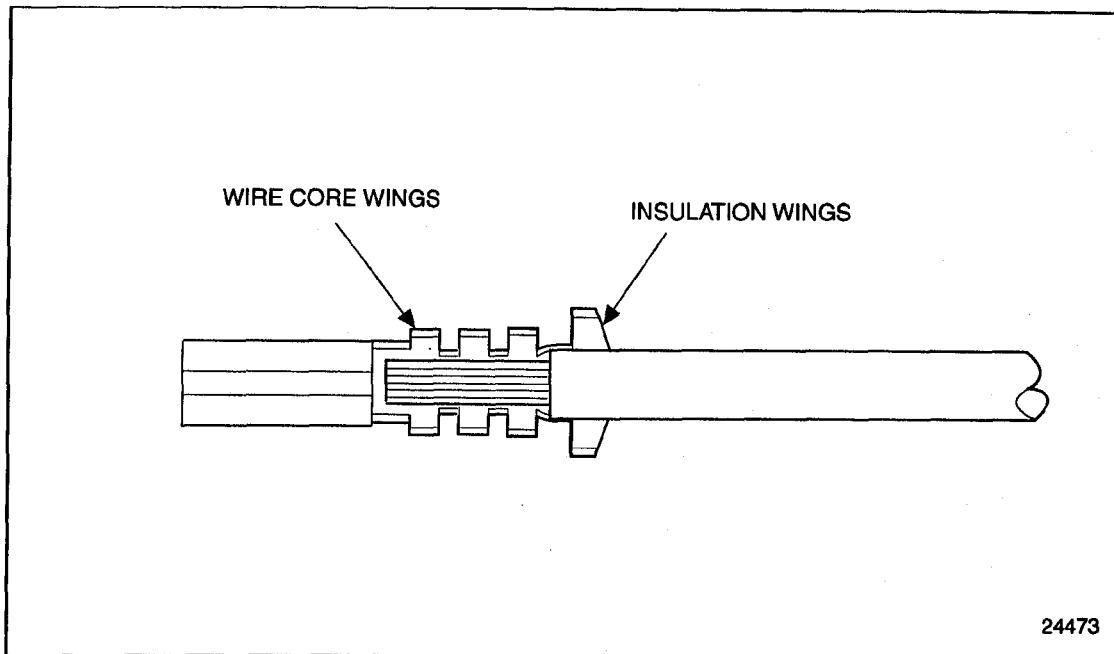

Figure 8-35 Cable to Terminal Alignment
3. Insert the cable into the terminal until the stripped portion is positioned in the cable core wings, and the insulated portion of the cable is in the insulation wings. See Figure 8-35.